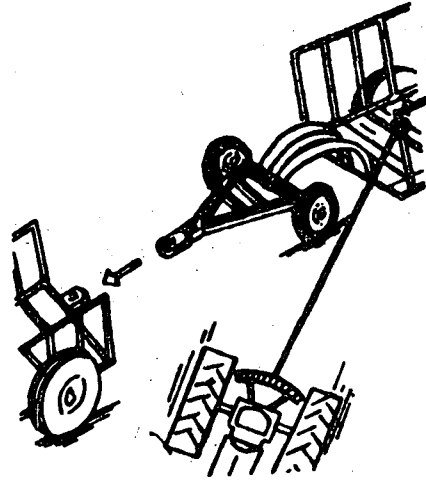

Fig. 2
- e) Hitch the second trailer with the chain. Slowly tow it towards the first one until the two coupling holes are in line, and insert the pin (Fig. 2).